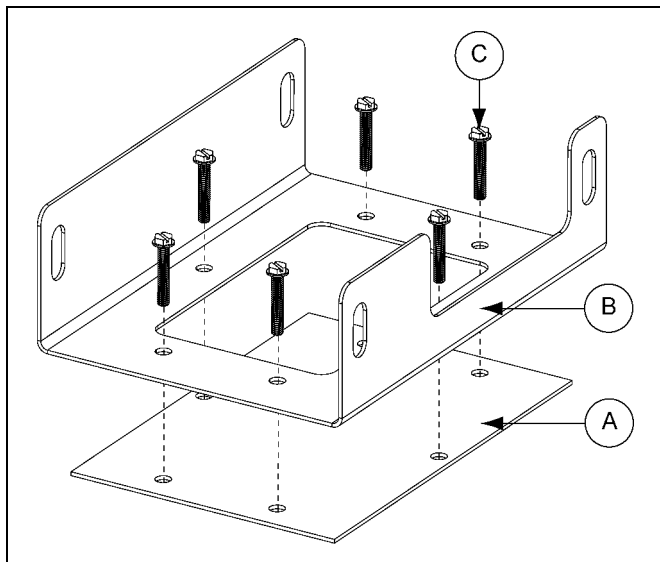

Figure 5BW
- Anchor the diaphragm (A) in place using the bracket (B) and screws (C). (See Figure 5BW.)